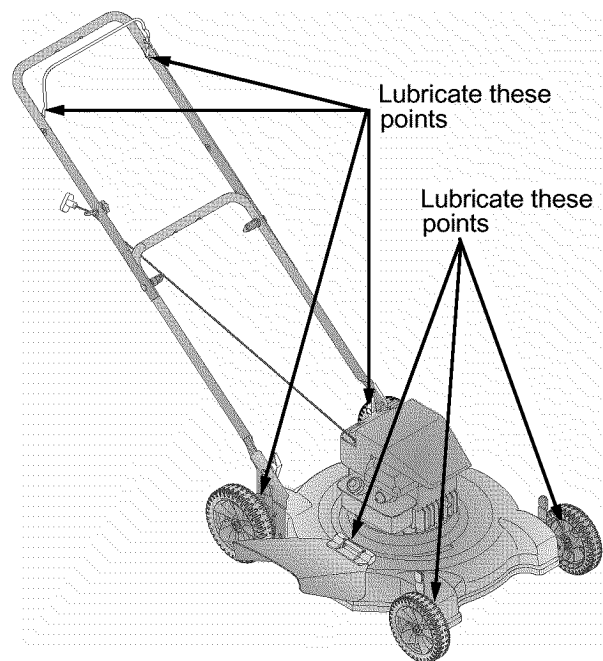

Figure 10
- Lubricate the pivot points on the blade control handle at least once a season with light oil. The blade control must operate freely in both directions. See Figure 10.
- Lubricate the wheels at least once a season with light oil (or motor oil). If the wheels are removed for any reason, lubricate the surface of the axle bolt and inner surface of the wheel with light oil. See Figure 10.
- Lubricate the torsion spring and pivot point periodically with light oil to prevent rust. See Figure 10.